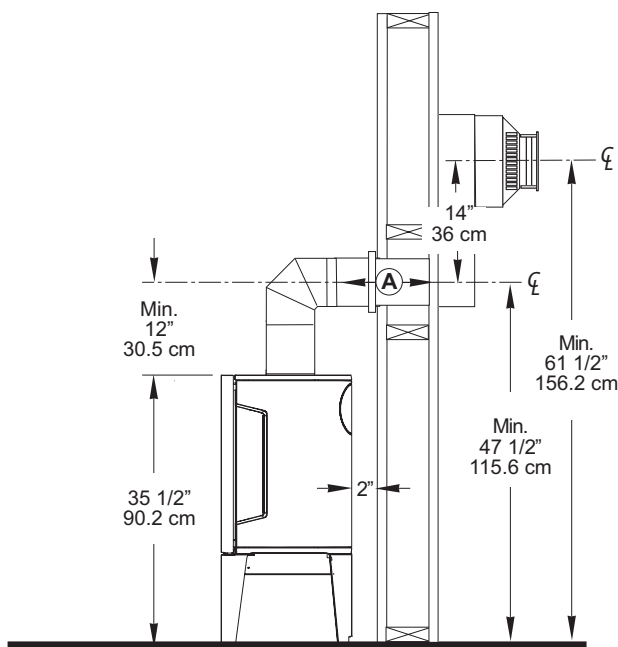

Figure 6.8. 14" Snorkel termination.
- A 14" (356mm) or 36" (914mm) snorkel termination is approved in conformance with the vent rise/run and termination clearance specifications published in this manual. See figs. 6.8 – 6.9.